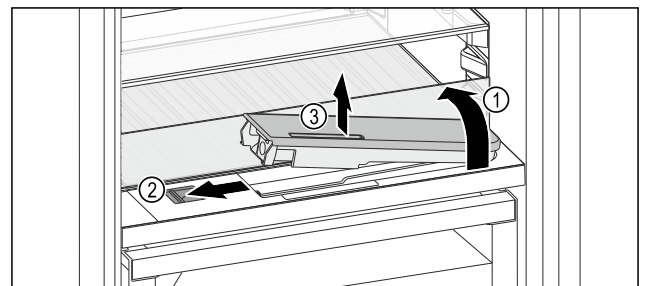

Fig. 172
- ▶ Lift the glass panel and fold towards the rear until it clicks into place Fig. 172 (1).
- ▶ Slide the slider Fig. 172 (2) to the left.
- ▶ Remove the water tank Fig. 172 (3).